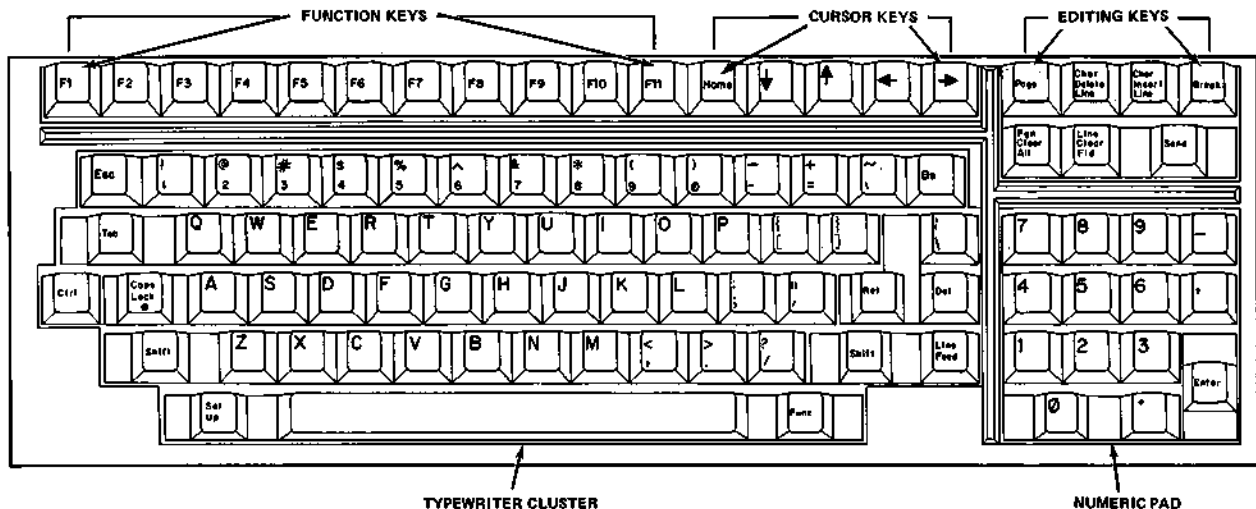

Figure 3-2. Keyboard
**3.2.1 Introduction.** The keyboard contains 2 clusters, the Qwerty Cluster and the Numeric Cluster as shown in figure 3-2. The typewriter and cursor keys automatically repeat if they are held down for longer than 3/4 second. This feature is called the typamatic mode. Depression
**3.2.3 Numeric Cluster.** The numeric cluster as shown in figure 3-2 is designed like a calculator pad and is used for easy numeric entries. All keys are in the numeric cluster are typamatic with the exception of the enter key. As defined in table 3-2, the 14 keys of the numeric pad can be selected to be an alternate pre-programmed function key cluster.